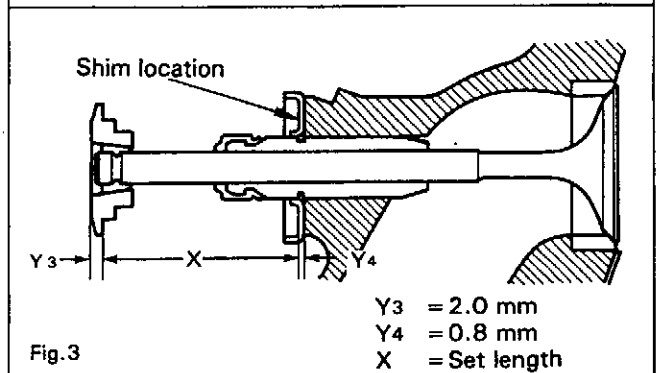

Fig. 3
- Calculate the valve spring set length X , as shown in the Fig. 3.